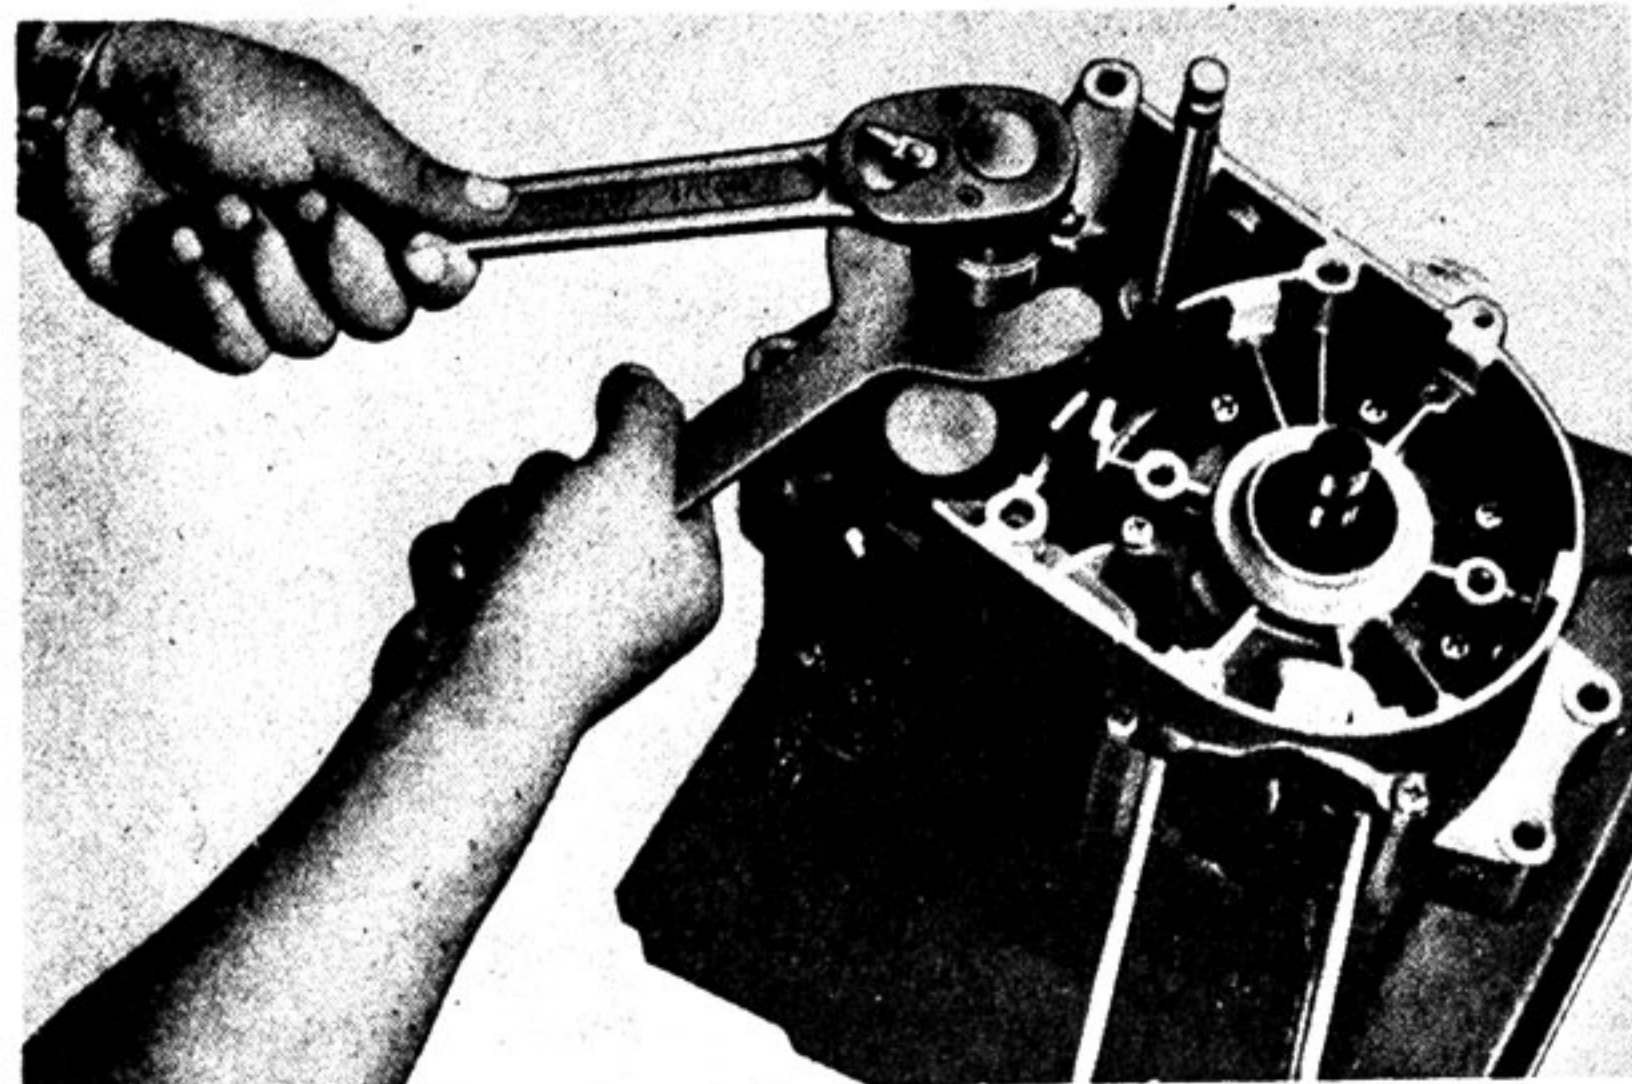

Fig. 4-13-2
- b. Keep the drive sprocket from turning with the flywheel magneto holding tool, then loosen the sprocket nut. (Fig. 4-13-2)